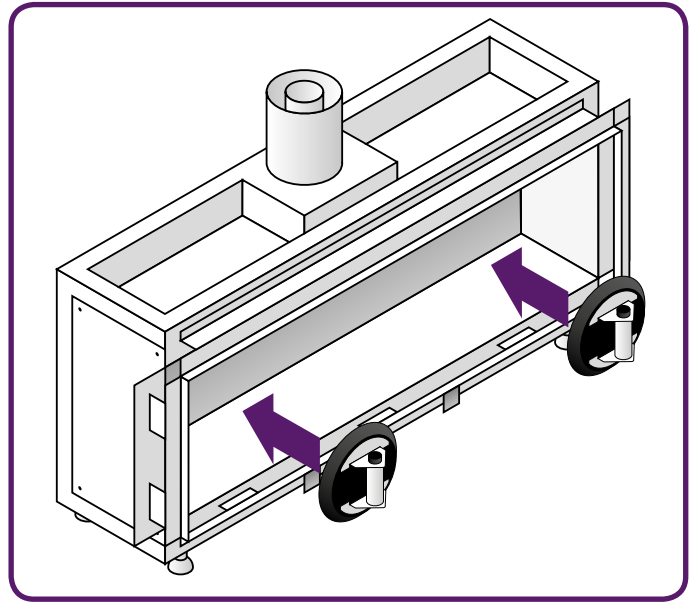

Figure 10.5 - Using the suction cup
- Put the section cup on the glass and make sure it is properly vacuumed, so it will not come off. (See *Figure 10.5*)